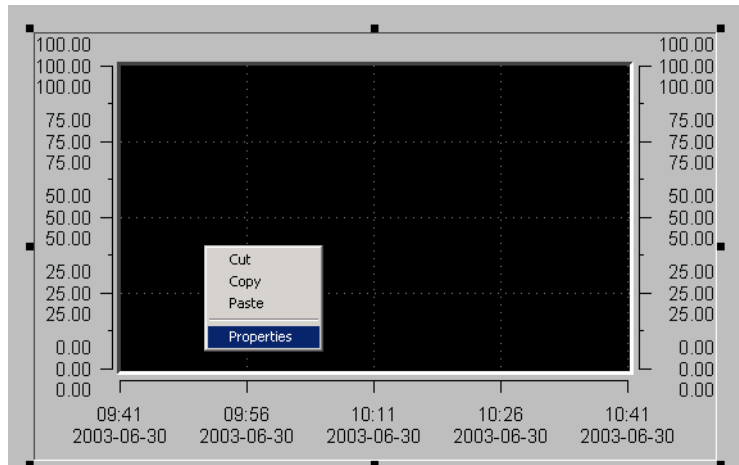

Figure 29. Displaying the Properties Dialog
- a. Display the Properties dialog for the Trend display element, Figure 29.